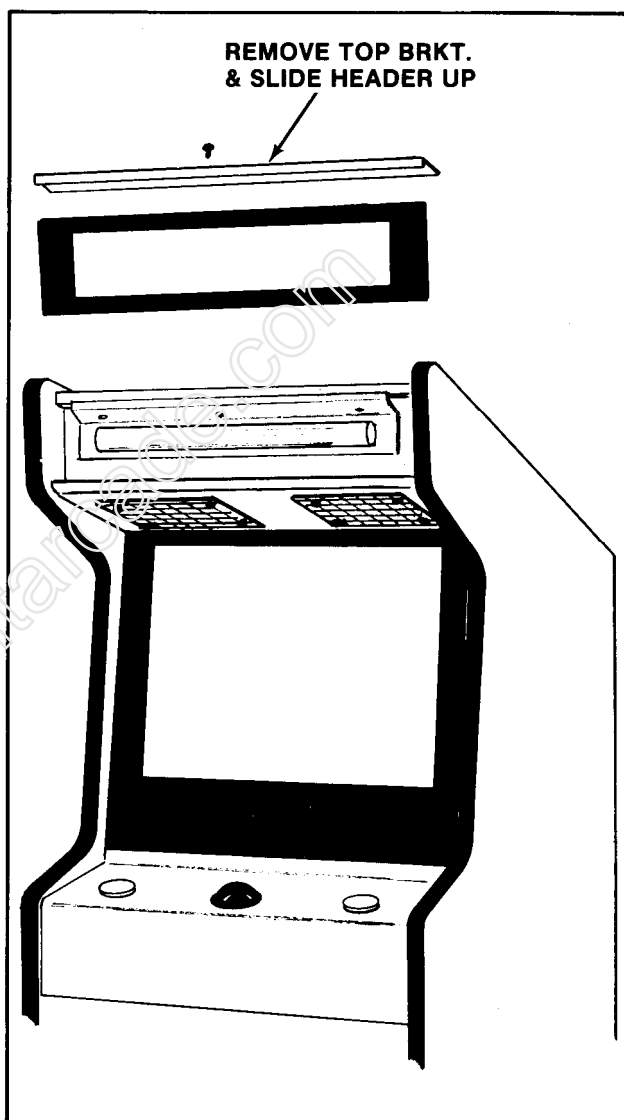

Figure 2-26 Opening the Attraction Panel - Upright
**2.9.1 UPRIGHT MODEL:** (See Figure 2-26)
Remove the screws which secure the top bracket in place. (They are on its top side.) See Figure 2-26.